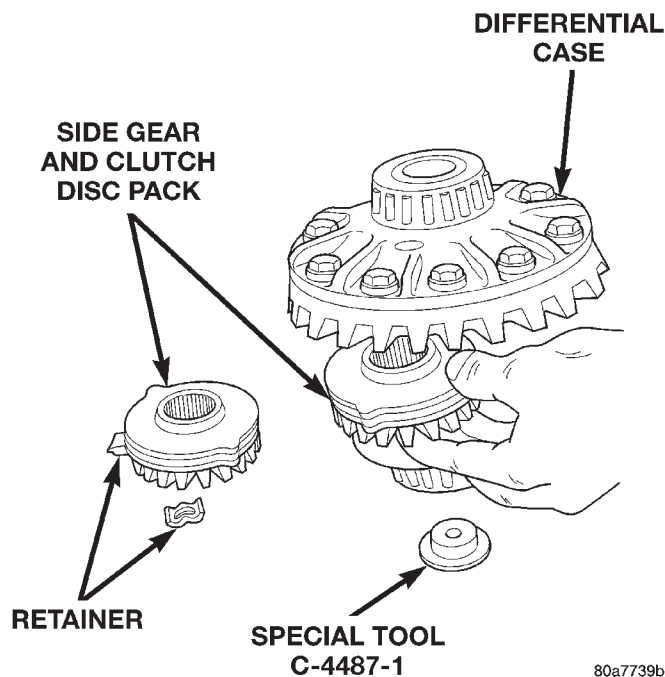

Fig. 44 Side Gear & Clutch Disc Removal
(15) Remove Forcing Screw C-4487-2, Step Plate C-4487-1, and Threaded Adapter C-4487-3.
(16) Remove top side gear, clutch pack retainer, and clutch pack. Keep plates in correct order during removal (Fig. 44).